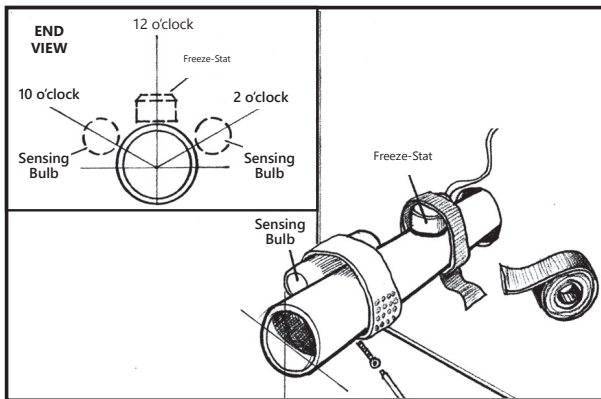

Fig. 13 - TX Sensing Bulb
The Thermal Expansion (TX) Valve comes pre-installed inside the RBM Module. It is accessible through the easy to remove front door or access hatch. The access hatch is used to access the TXV and the adjustment stem after the line sets are brazed on, and can be adjusted while the system is running. The TXV's sensing bulb is pre-installed on a clean, horizontal section of the suction line. It will be mounted on the top half of the pipe in the 2 o'clock or 10 o'clock position. (Fig. 13) When brazing near components always use a wet rag or heat dissipating paste to avoid damage or overheating any components. Failure to do so may void warranty.